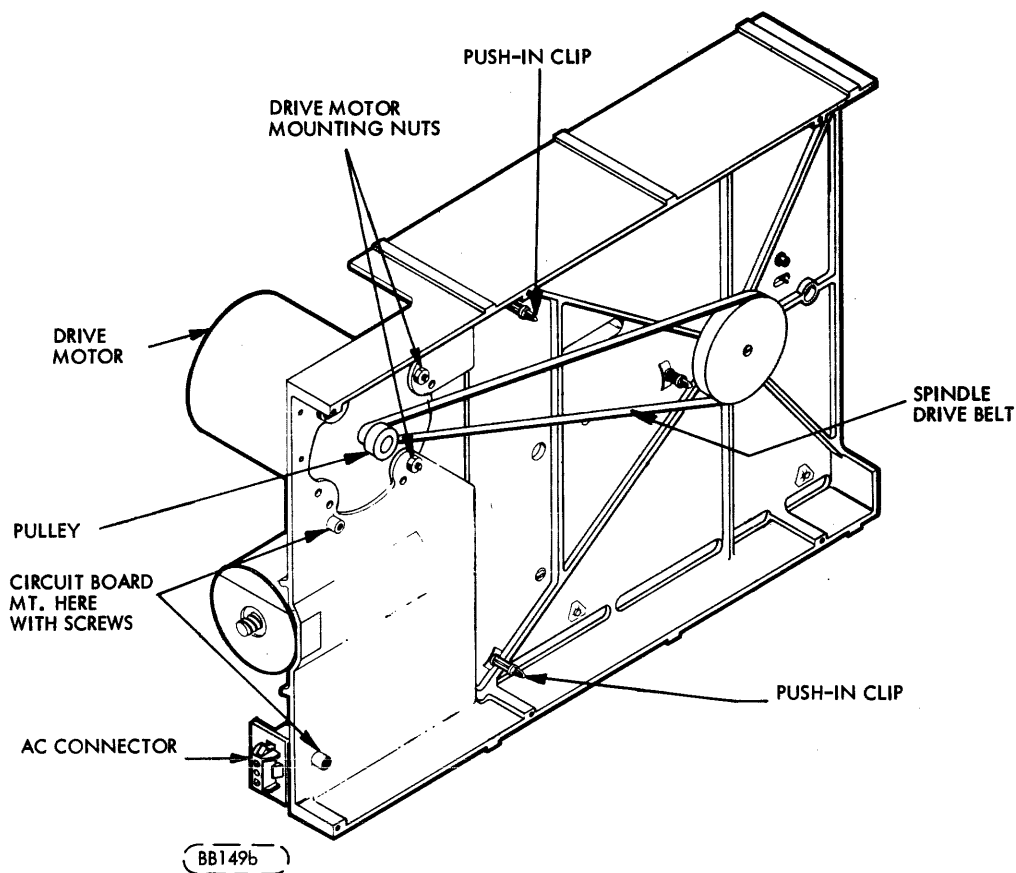

FIGURE 6-12. BASE CASTING ASSEMBLY
- d. Remove two screws from printed-circuit board adjacent to connector J1 (Figure 6-12).
- e. Remove PWA by detaching it from the two push-in clips shown in Figure 6-12.
- c. Remove AC connector from bracket. (Figure 6-12)
- e. Remove spindle drive belt (Figure 6-12).
- f. Remove three (3) nuts securing drive motor (Figure 6-12).
This procedure is to be used to convert the FDD unit from 60 Hz operation to 50 Hz operation or vice versa. This is accomplished by reversing the dual diameter reversible pulley on the spindle motor shaft (Figure 6-12) using the following steps: